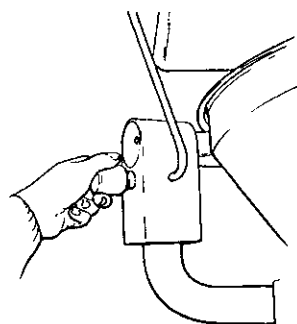
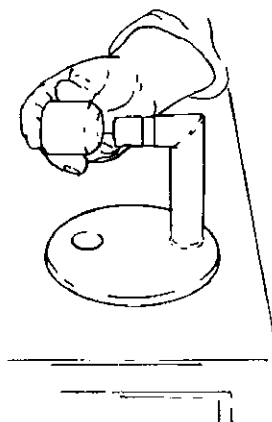

Fig. 5-4
Fig. 5-5
- Take the shut-off plug for the standpipe off the bracket on the hopper hinge (Fig. 5-4) and put it on the standpipe (Fig. 5-5).